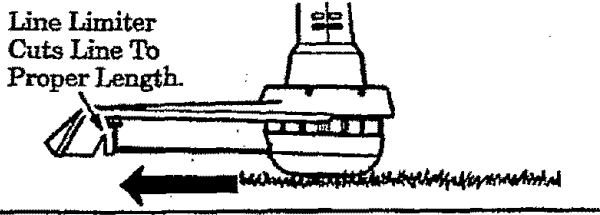

Figure 5
- Always keep the shield in place when the unit is being operated. Figure 5.